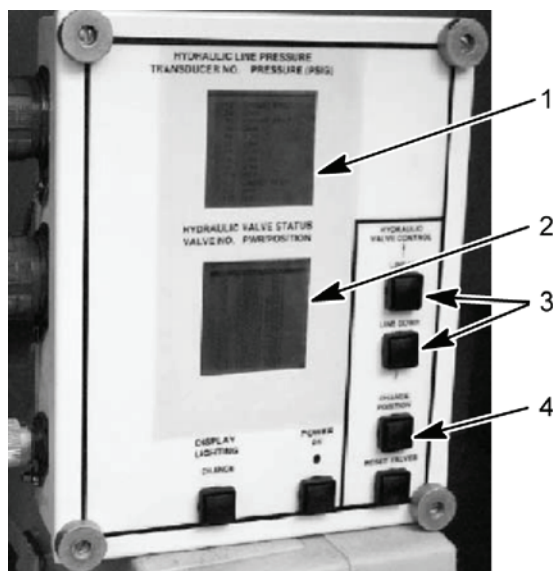

Figure 9. HDC Control Box
- Have assistant start engine and move SPRUNG/UNSPRUNG lever to UNSPRUNG and right SUSPENSION CONTROL lever to LOWER. Read transducer T-13 pressure on the HDC display (Figure 9, item 1).
- Using LINE UP or LINE DOWN button (Figure 9, item 3) on the HDC control box, select V5 on the HDC display (Figure 9, item 2). Using the CHANGE POSITION button (Figure 9, item 4), open V5 on the HDC display (Figure 9, item 2). Repeat step for V12, V13 and V19, opening V12 and V13, and closing V19.